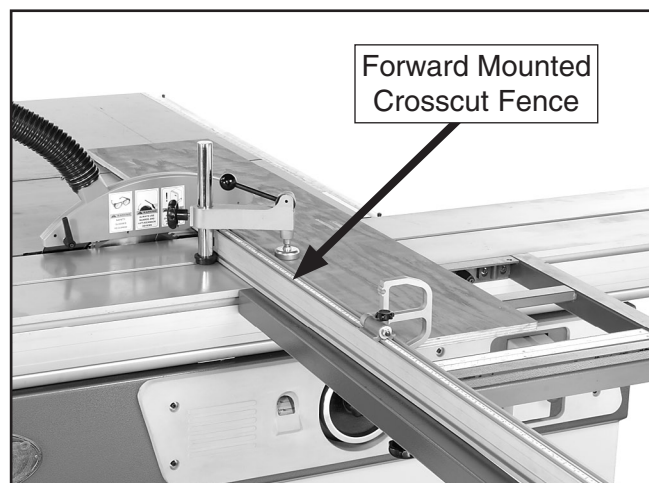

Figure 57. Typical crosscutting operation with the crosscut fence in the forward position.
The Model G0460/G0461 can crosscut 4' x 8' panels with the fence in the forward or rear position, although it is easier to load full size panels with the crosscut fence mounted in the forward position (see **Figure 57**).
4. Load the workpiece onto the table saw. The setup should look similar to **Figure 57**.